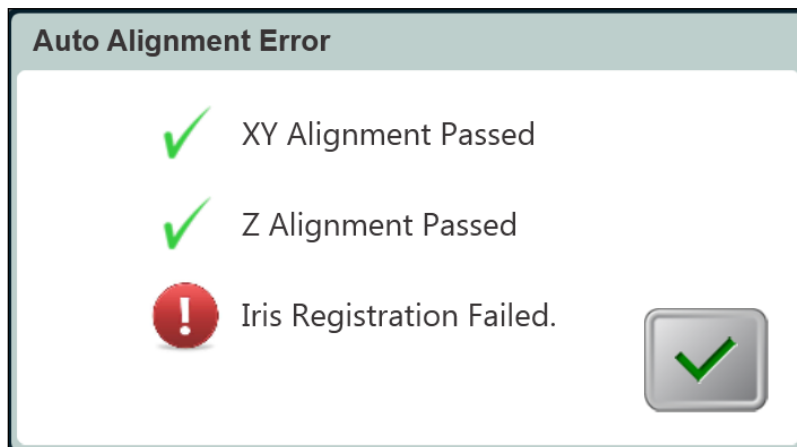
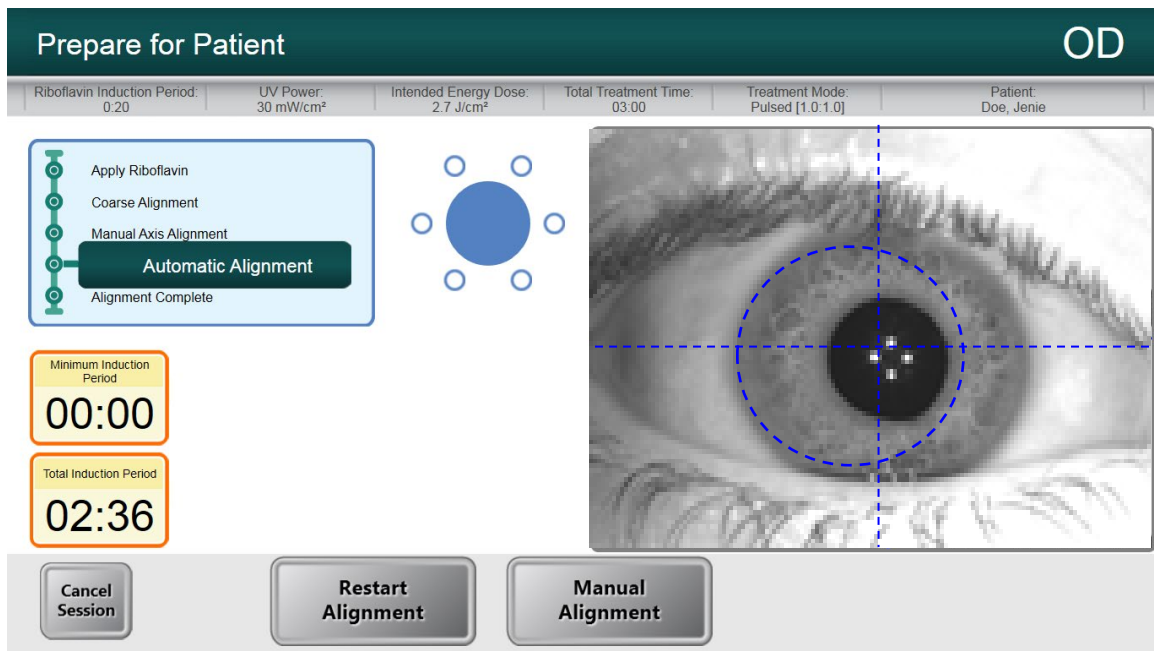

Figure 5-23. Iris Registration Failure
Figure 5-24. Restart Auto Alignment or Manual Alignment Option
- In the case of iris registration failure, as shown in Figure 5-23, the user is notified of the failure and has the option to restart the auto alignment or forego auto alignment and proceed with manual alignment, as shown in Figure 5-24.